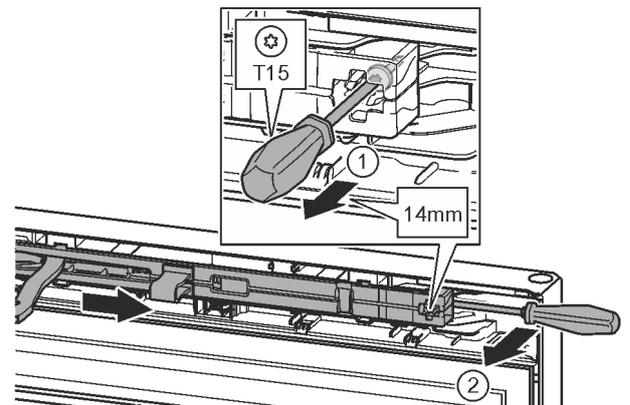

Fig. 12
- ▶ Undo the soft stop mechanism screw with a T15 screwdriver approx. 14 mm. Fig. 12 (1)
- ▶ Insert a screwdriver behind the soft stop mechanism on the handle side and rotate forwards. Fig. 12 (2)
- ▶ Remove the soft stop mechanism. Fig. 12 (3)